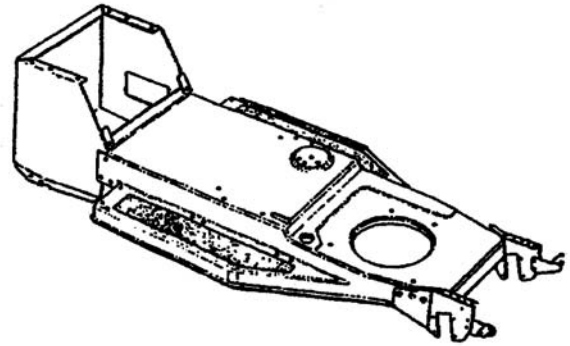

Figure 7-36. 400 Series Frame Identification
**Speed Control Lever.** The speed control lever is located on the left fender. It allows you to regulate the ground speed of the lawn tractor. See Figure 7-36. To select the ground speed, depress clutch pedal. Push speed control lever outward and move backward to slow lawn tractor, move forward to increase speed. When desired speed has been obtained, release lever in that position. Whenever clutch is engaged, unit will automatically go to the pre-set speed.